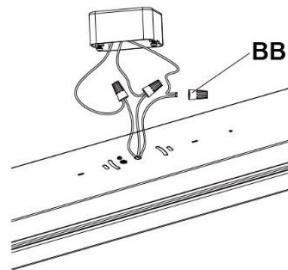

Figure 10
3. Remove the heat shrink tubing wrap from the ends of the black, white, and green wires in order to expose the copper wires prior to connecting the AC wires to the corresponding wires (BLACK to BLACK, WHITE to WHITE and GREEN to GREEN) in the junction box and secure using wire nuts (Part BB). (Figure 10)
**NOTE:** For proper connection, place the wire nuts (BB) over wires and twist clockwise until tight. (Figure 10)